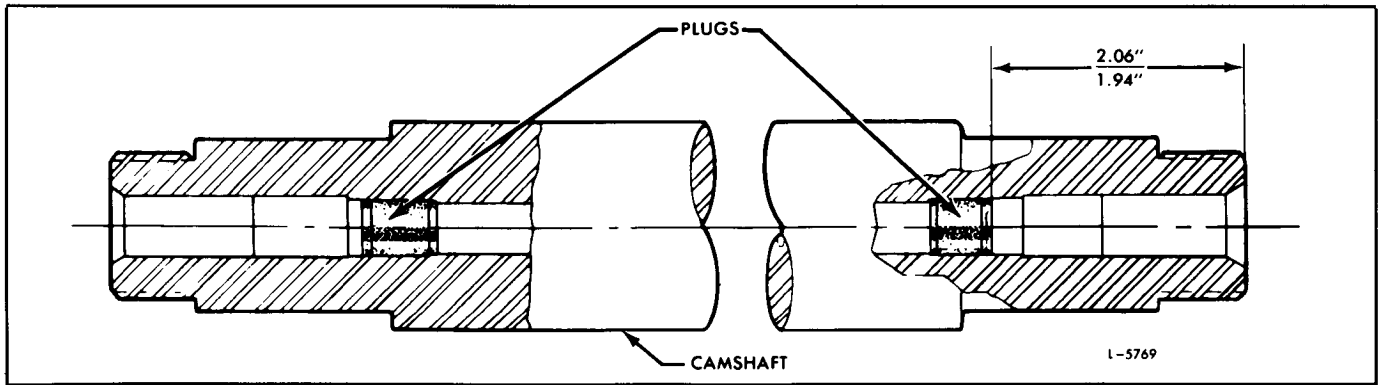

Fig. 11 - Camshaft Plug Installation
- Install new end plugs in the camshaft. Press the plugs in to a depth of 1.940" to 2.060" (Fig. 11).